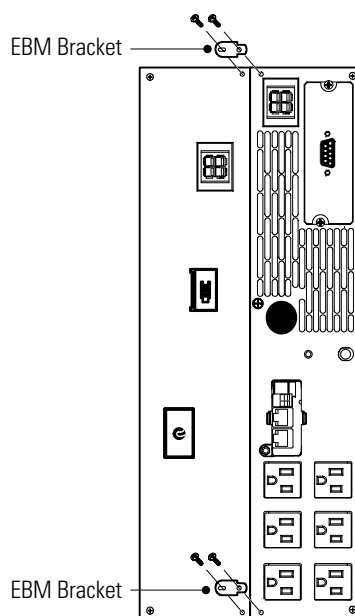

Figure 7. Installing the EBM Brackets
2. Remove the adjacent corner screws from the rear panels as shown in Figure 7 to install the EBM brackets. Discard the screws.